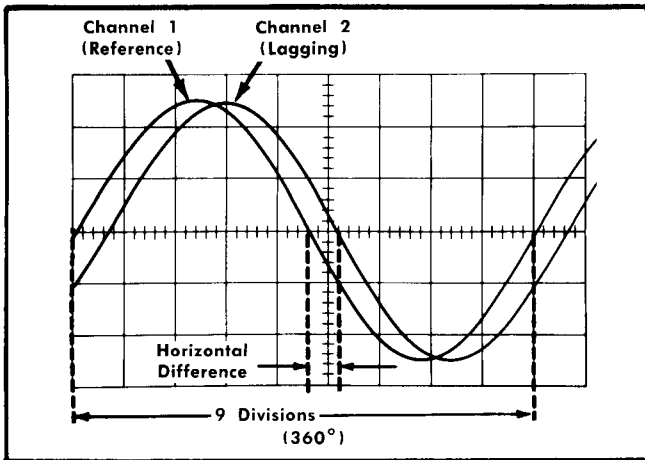
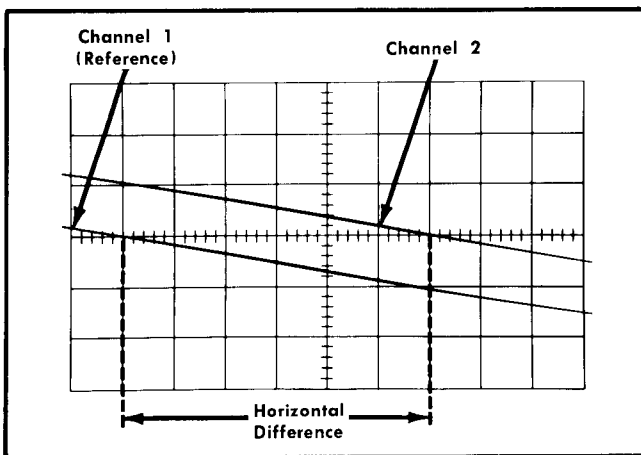

Fig. 2-22. Measuring phase difference.
Fig. 2-23. Accurate phase-difference measurement with increased sweep rate.
10. Turn the A VARIABLE control until 1 cycle of the reference signal (Channel 1) occupies exactly 9 divisions horizontally (see Fig. 2-22). Each division of the graticule represents 40° of the cycle ($360^\circ \div 9 \text{ divisions} = 40^\circ / \text{division}$). This is the phase factor.
Example. Assume a horizontal difference of 0.6 divisions with a phase factor of 40° as shown in Fig. 2-22.
Example. If the sweep rate were increased 10 times with the magnifier, the adjusted phase factor would be $40^\circ \div 10 = 4^\circ/\text{division}$. Fig. 2-23 shows the same signals as used in Fig. 2-22 but with the MAG switch set to $\times 10$. With a horizontal difference of 6 divisions, the phase difference would be: